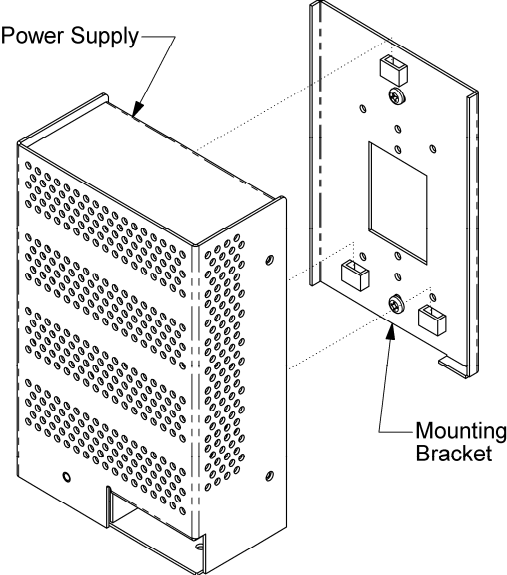

Figure 4. Mounting the Power Supply
3. Using Figure 4 as a guide, mount the power supply onto the mounting bracket.